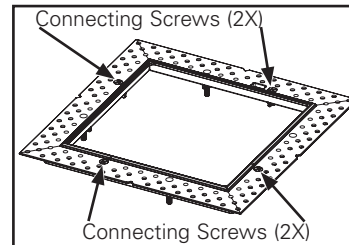

Figure 7.
1. To change the lip height, loosen and remove the (4) connecting screws. (Figure 7.)